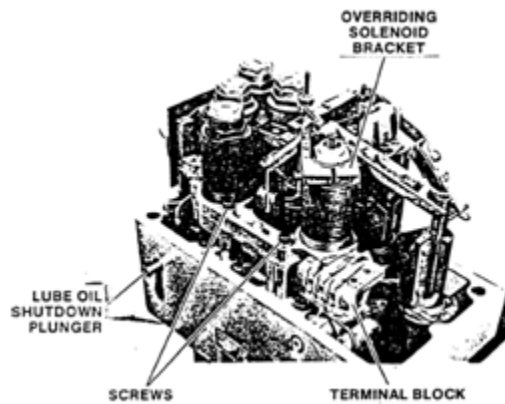

Figure 5-1. PGEV with Fuel Limiter
2. Remove overriding solenoid (ORS) bracket Figure 5-1).